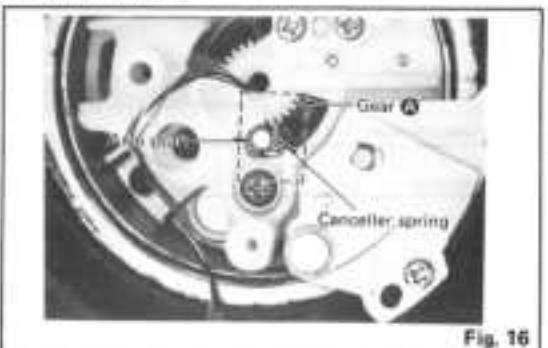

Fig. 16
If the arm body or PU base plate is replaced, be sure to set the canceller knob to "0.5" and make sure that the canceller spring is in contact with the arm shaft. (See Fig. 16) If the canceller spring is deflected, adjust it as follows:
3. Remove the PU base plate, adjust gear ④ so that the canceller spring is in the position of Fig. 16.